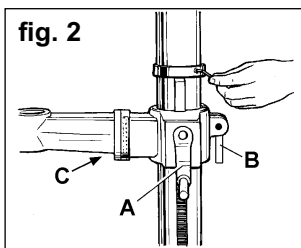

fig. 2
- 5.1.3. Install the rack collar and tighten firmly (fig.2).
- 5.1.4. Install the table adjusting handle (fig.2.A) and pivoted clamp bolt (the longer of the two - fig.2.B).
- 6.2.1. To adjust table up or down, loosen clamp bolt (fig.2.B) then turn bracket handle (fig.2.A). Once at correct height tighten clamp bolt (fig.2.B).
- 6.2.2. To adjust table tilt, loosen the work table bolt (fig.2.C), adjust to the desired angle using the angle scale, then retighten.